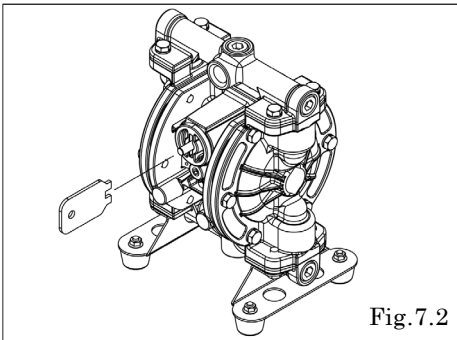

Fig.7.2
- Remove the cap A and cap B using the cap remover. (special tool: Part No. 717114). [Fig.7.2]